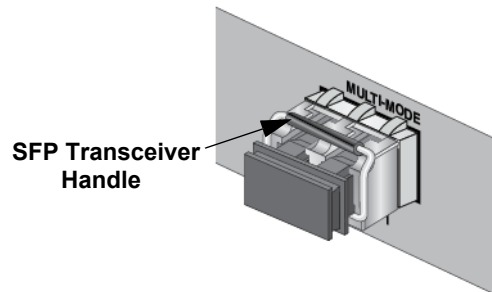

Figure 22. Positioning the SFP Handle in the Upright Position
5. Verify that the handle on the transceiver is in the upright position, as shown in Figure 22. This secures the transceiver and prevents it from being dislodged from the slot.